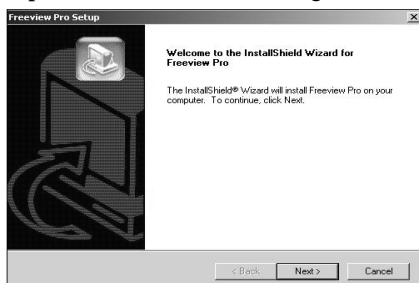

Fig. 2-9
Step 3: Click **“Next”** to continue installation, as **Fig. 2-9**.